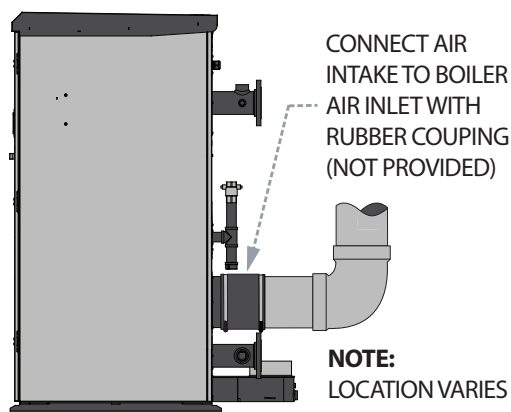

FIGURE 12 - CONNECTING TO BOILER AIR INLET
2. An adapter (not supplied with boiler) may be required to connect the boiler air inlet to the combustion air ducting/piping. See **Figure 12**.